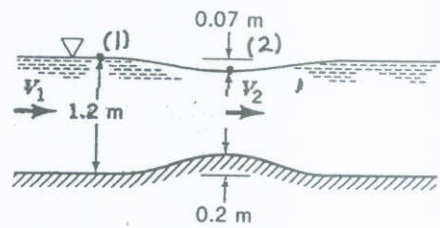

FIGURE P3.111
3.111 The flowrate in a water channel is sometimes determined by use of a device called a Venturi flume. As shown in Fig. P3.111, this device consists simply of a hump on the bottom of the channel. If the water surface dips a distance of 0.07 m for the conditions shown, what is the flowrate per width of the channel? Assume the velocity is uniform and viscous effects are negligible.